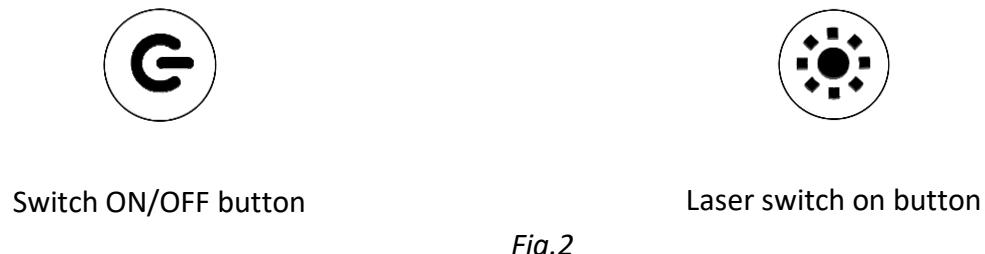

Fig.2
1.4.3. Modes management of the device carried out by two buttons, which shown in figure 2 and laser control to change laser radiation power: